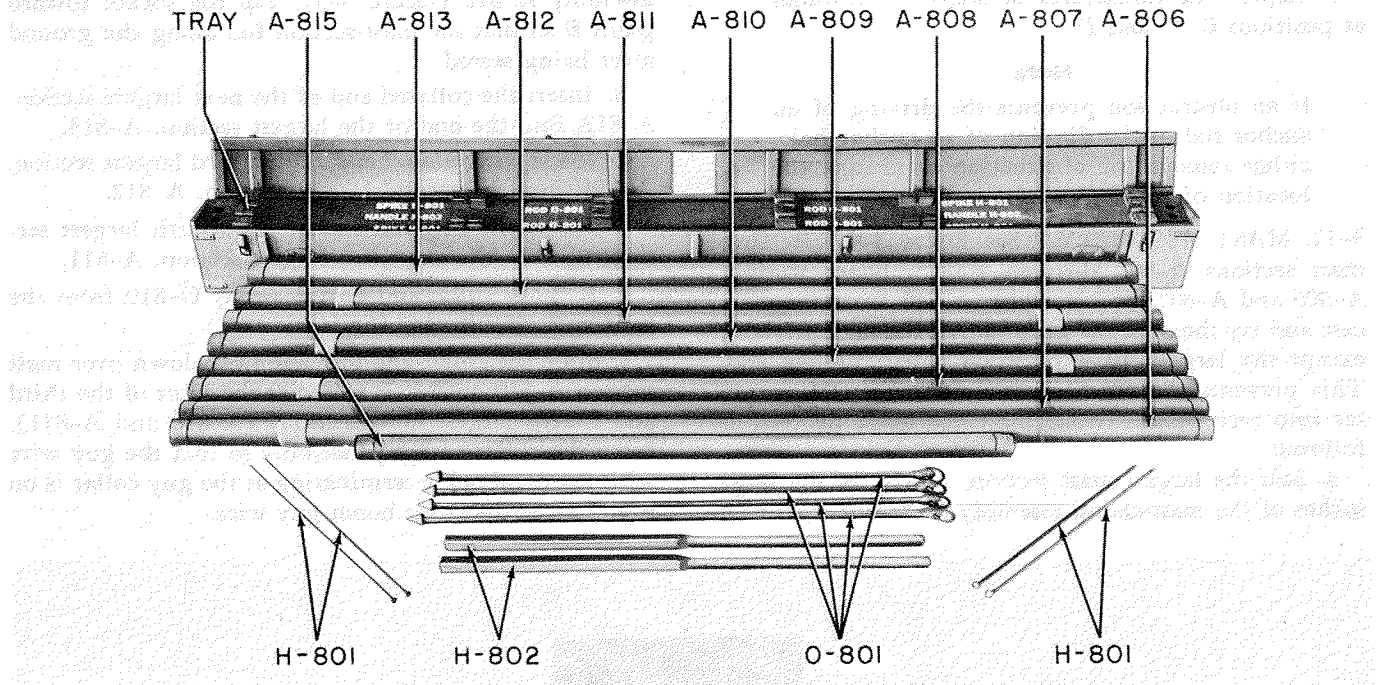

Figure 3-3. Contents of Mast Case CY-1185/GRC
- b. Open Mast Case CY-1185/GRC (figure 3-3) and remove spikes H-801.
c. Remove anchor rods O-801 from the mast case (figure 3-3). At a point 18 inches away from the edge of the hole on the *O* side of line *AO*, drive an anchor
3-12. MAST ASSEMBLY. (See figure 3-3.) Remove mast sections A-808 through A-813, boom sections A-806 and A-807, and crossarm A-815 from the mast case and lay them on the ground. All the mast sections, except the largest, have plywood collars at one end. This prevents the adjacent sections from sliding too far into each other. To assemble the mast, proceed as follows: